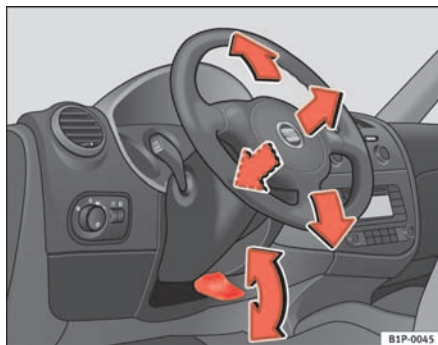

Fig. 109 Adjusting the steering wheel position
- Push the lever under the steering column ⇒ fig. 109 down ⇒ ⚠.